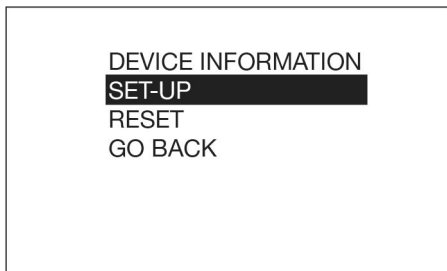

FIG. 18
5. Select the SET-UP option (FIG. 18).